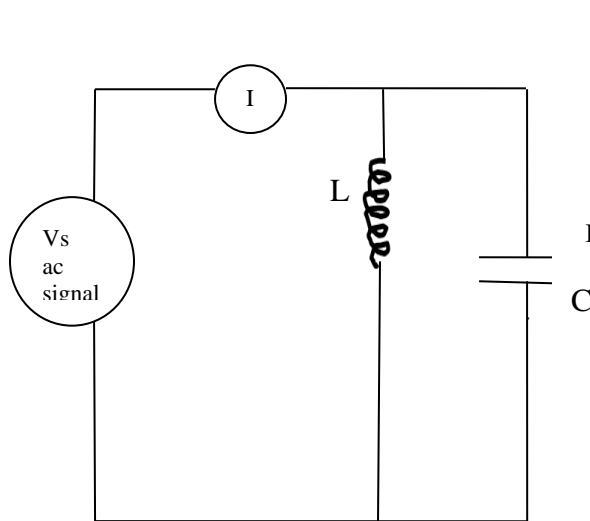
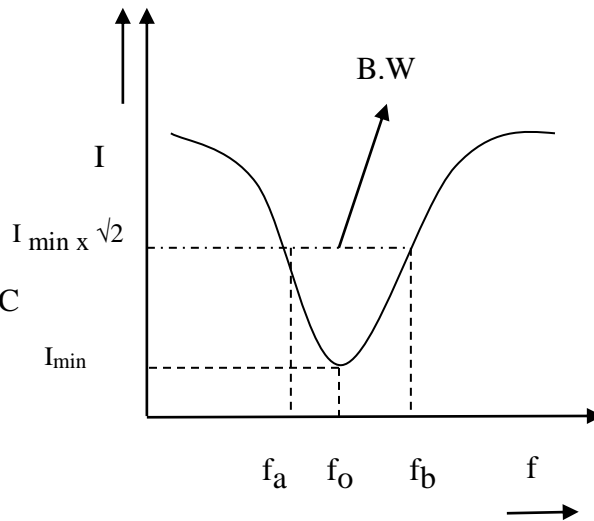

Fig.3: Parallel resonance circuit
Fig.4. : Parallel resonance curve
In series circuit, inductor, capacitor and resistance are connected in series to the Voltage source, V_s and in parallel circuit, inductor and capacitor are connected in parallel to the Voltage source, V_s as shown in the circuit diagram. In parallel circuit, no need to include resistance as in the figure 3.
For parallel resonance, the circuit is done as in fig.3. The experiment is repeated as in series resonance. The readings are plotted as shown in fig.4. From the graph the resonance frequency for minimum current is noted. The unknown inductance value is determined using Eq. (1).